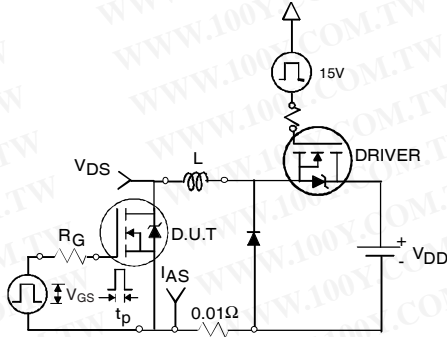

Fig 12a. Unclamped Inductive Test Circuit
- ③ $I_{SD} \leq 48A, di/dt \leq 330A/\mu s, V_{DD} \leq V_{(BR)DSS}, T_J \leq 175^\circ\text{C}$
- ④ Pulse width $\leq 400\mu s$; duty cycle $\leq 2\%$.
- ⑤ $C_{oss\ eff.}$ is a fixed capacitance that gives the same charging time as C_{oss} while V_{DS} is rising from 0 to 80% V_{DSS} .
- ⑥ Limited by T_{Jmax} , see Fig.12a, 12b, 15, 16 for typical repetitive avalanche performance.
- ⑦ This value determined from sample failure population. 100% tested to this value in production.
3. Equation below based on circuit and waveforms shown in Figures 12a, 12b.